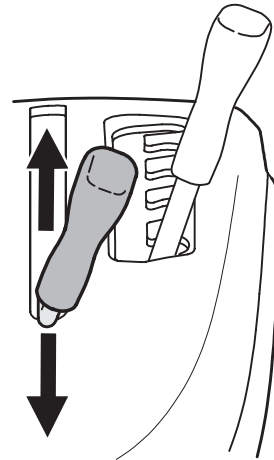

Figure 16
2. Push the PTO (blade engage) lever forward into the engaged (ON) position (Figure 16).